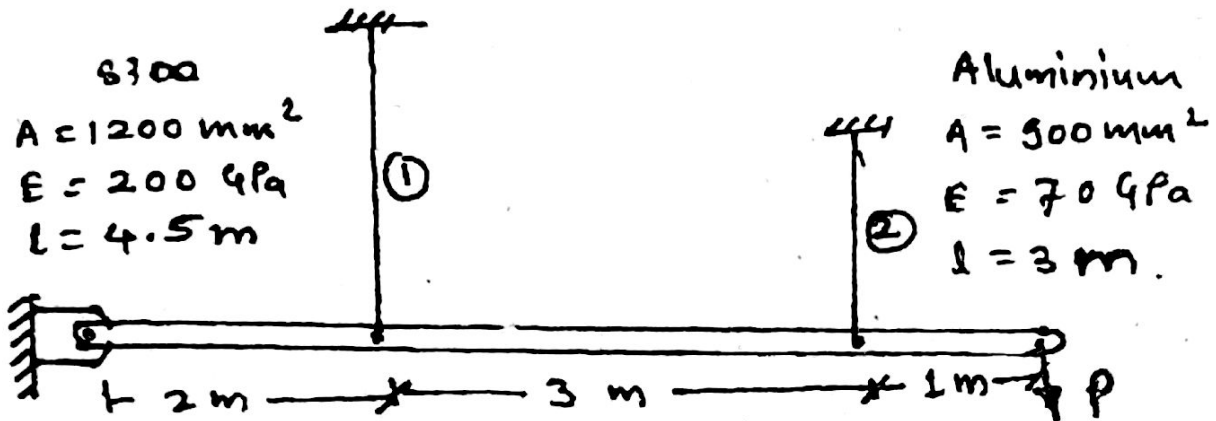

fig. Q. 7
7. Consider the structure shown in fig. Q.7